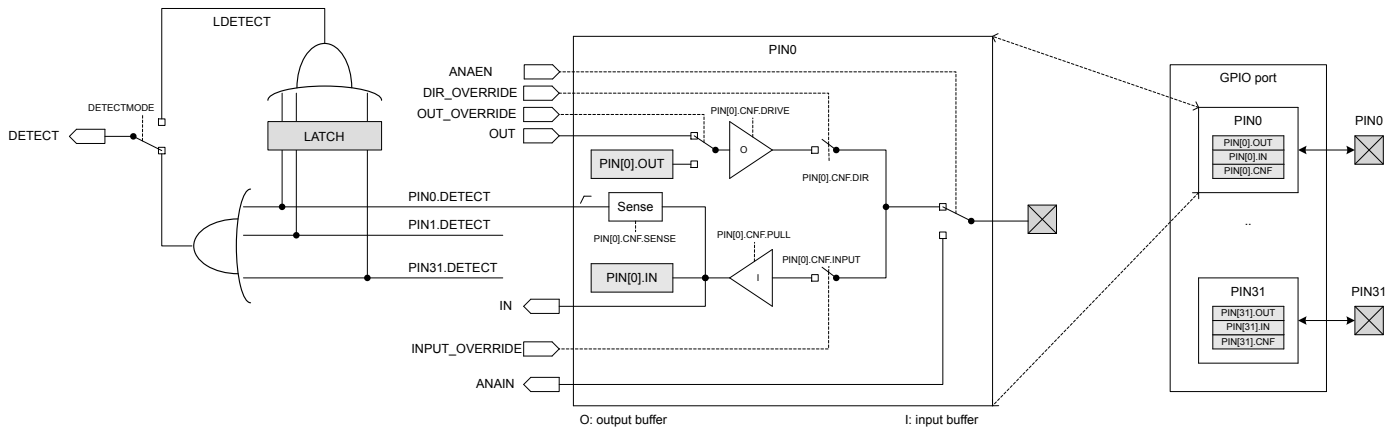
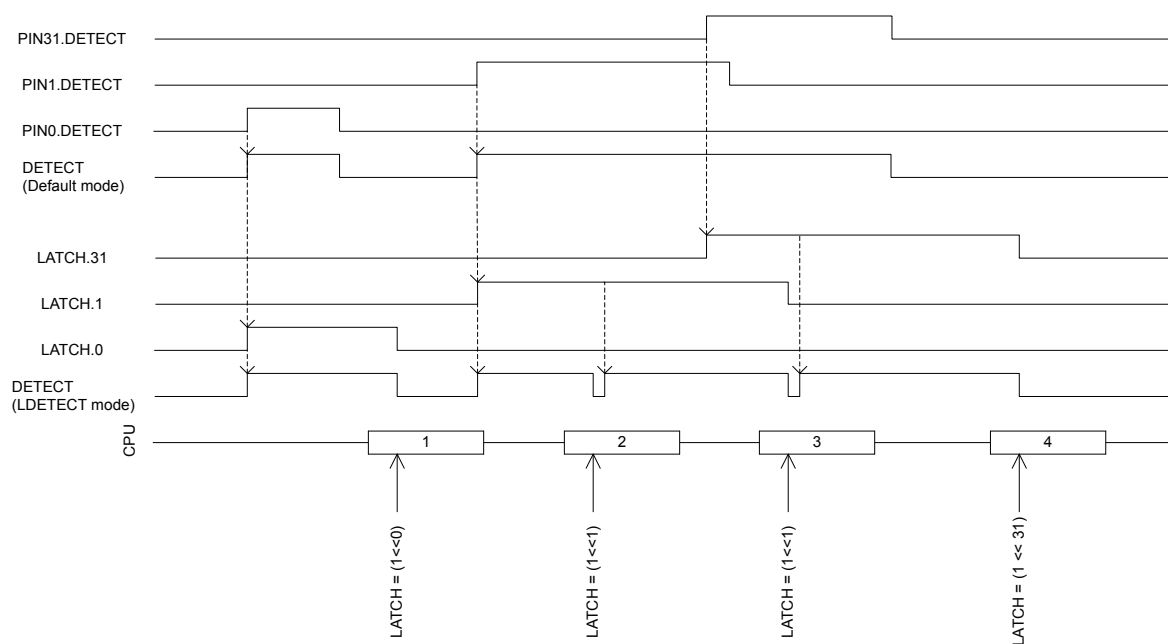

Figure 53: GPIO port and the GPIO pin details
Figure 55: DETECT signal behavior
**Figure 53: GPIO port and the GPIO pin details** on page 211 illustrates the GPIO port containing 32 individual pins, where `PIN0` is illustrated in more detail as a reference. All signals on the left side in the illustration are used by other peripherals in the system and therefore not directly available to the CPU.
The input buffer of a GPIO pin can be disconnected from the pin to enable power savings when the pin is not used as an input, see Figure 53: GPIO port and the GPIO pin details on page 211. Inputs must be
Other peripherals in the system can connect to GPIO pins and override their output value and configuration, or read their analog or digital input value. See Figure 53: GPIO port and the GPIO pin details on page 211.
Selected pins also support analog input signals, see `ANAIN` in Figure 53: GPIO port and the GPIO pin details on page 211. The assignment of the analog pins can be found in Pin assignments on page 765.
If one or more bits in the **LATCH** register are '1' after the CPU has performed a clear operation on the **LATCH** registers, a rising edge will be generated on the LDETECT signal. This is illustrated in Figure 55: DETECT signal behavior on page 214.
The LDETECT signal is by default not connected to the GPIO port's DETECT signal, but via the DETECTMODE register it is possible to change from default behavior to DETECT signal being derived directly from the LDETECT signal instead. See Figure 53: GPIO port and the GPIO pin details on page 211. Figure 55: DETECT signal behavior on page 214 illustrates the DETECT signal behavior for these two alternatives.